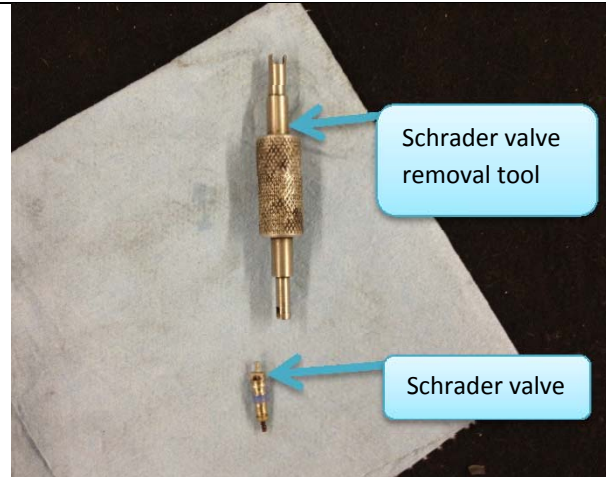

Figure 38: Schrader valve and removal tool.
- 33.2. Remove valve with Schrader valve removal tool (Figure 38)